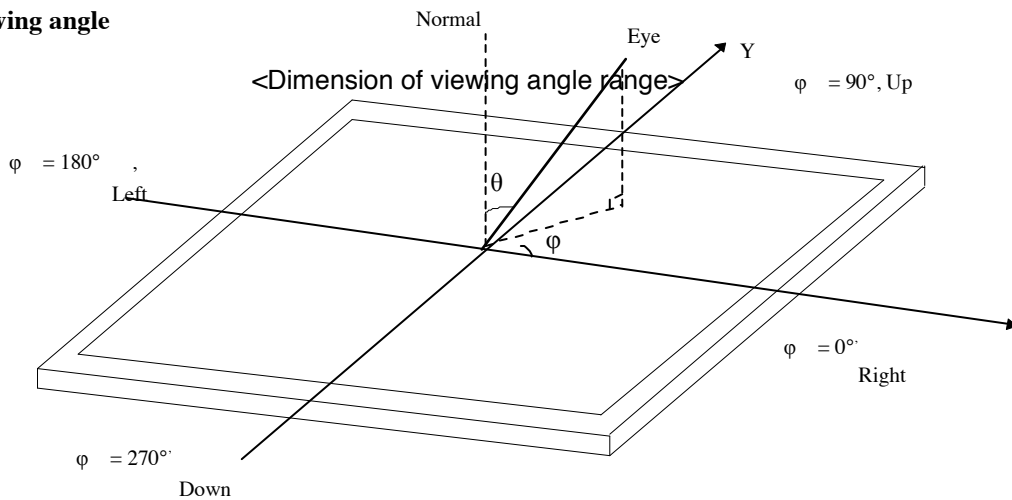

**FIG. 3 Response Time**
2. Response time is the time required for the display to transition from white to black (rise time,  $T_{rR}$ ) and from black to white(Decay Time,  $T_{rD}$ ). For additional information see FIG 3.